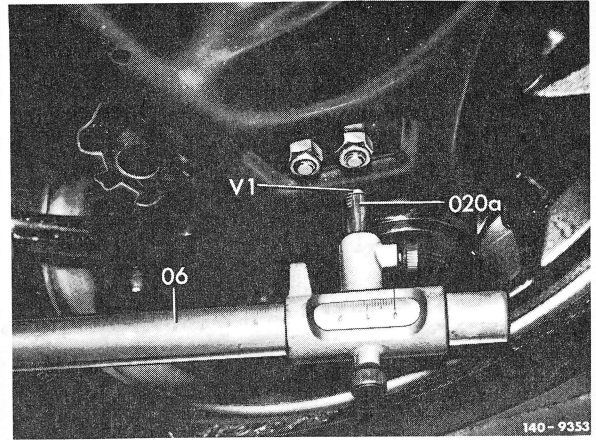

Fig. 8
**3** Measure distance "V1" from check bore "K" to outside bore in lower control arm with beam compass, measuring length 2,500 mm (06) and measuring bolt with tip, length 25 mm (020a) (Fig. 8 and 9).